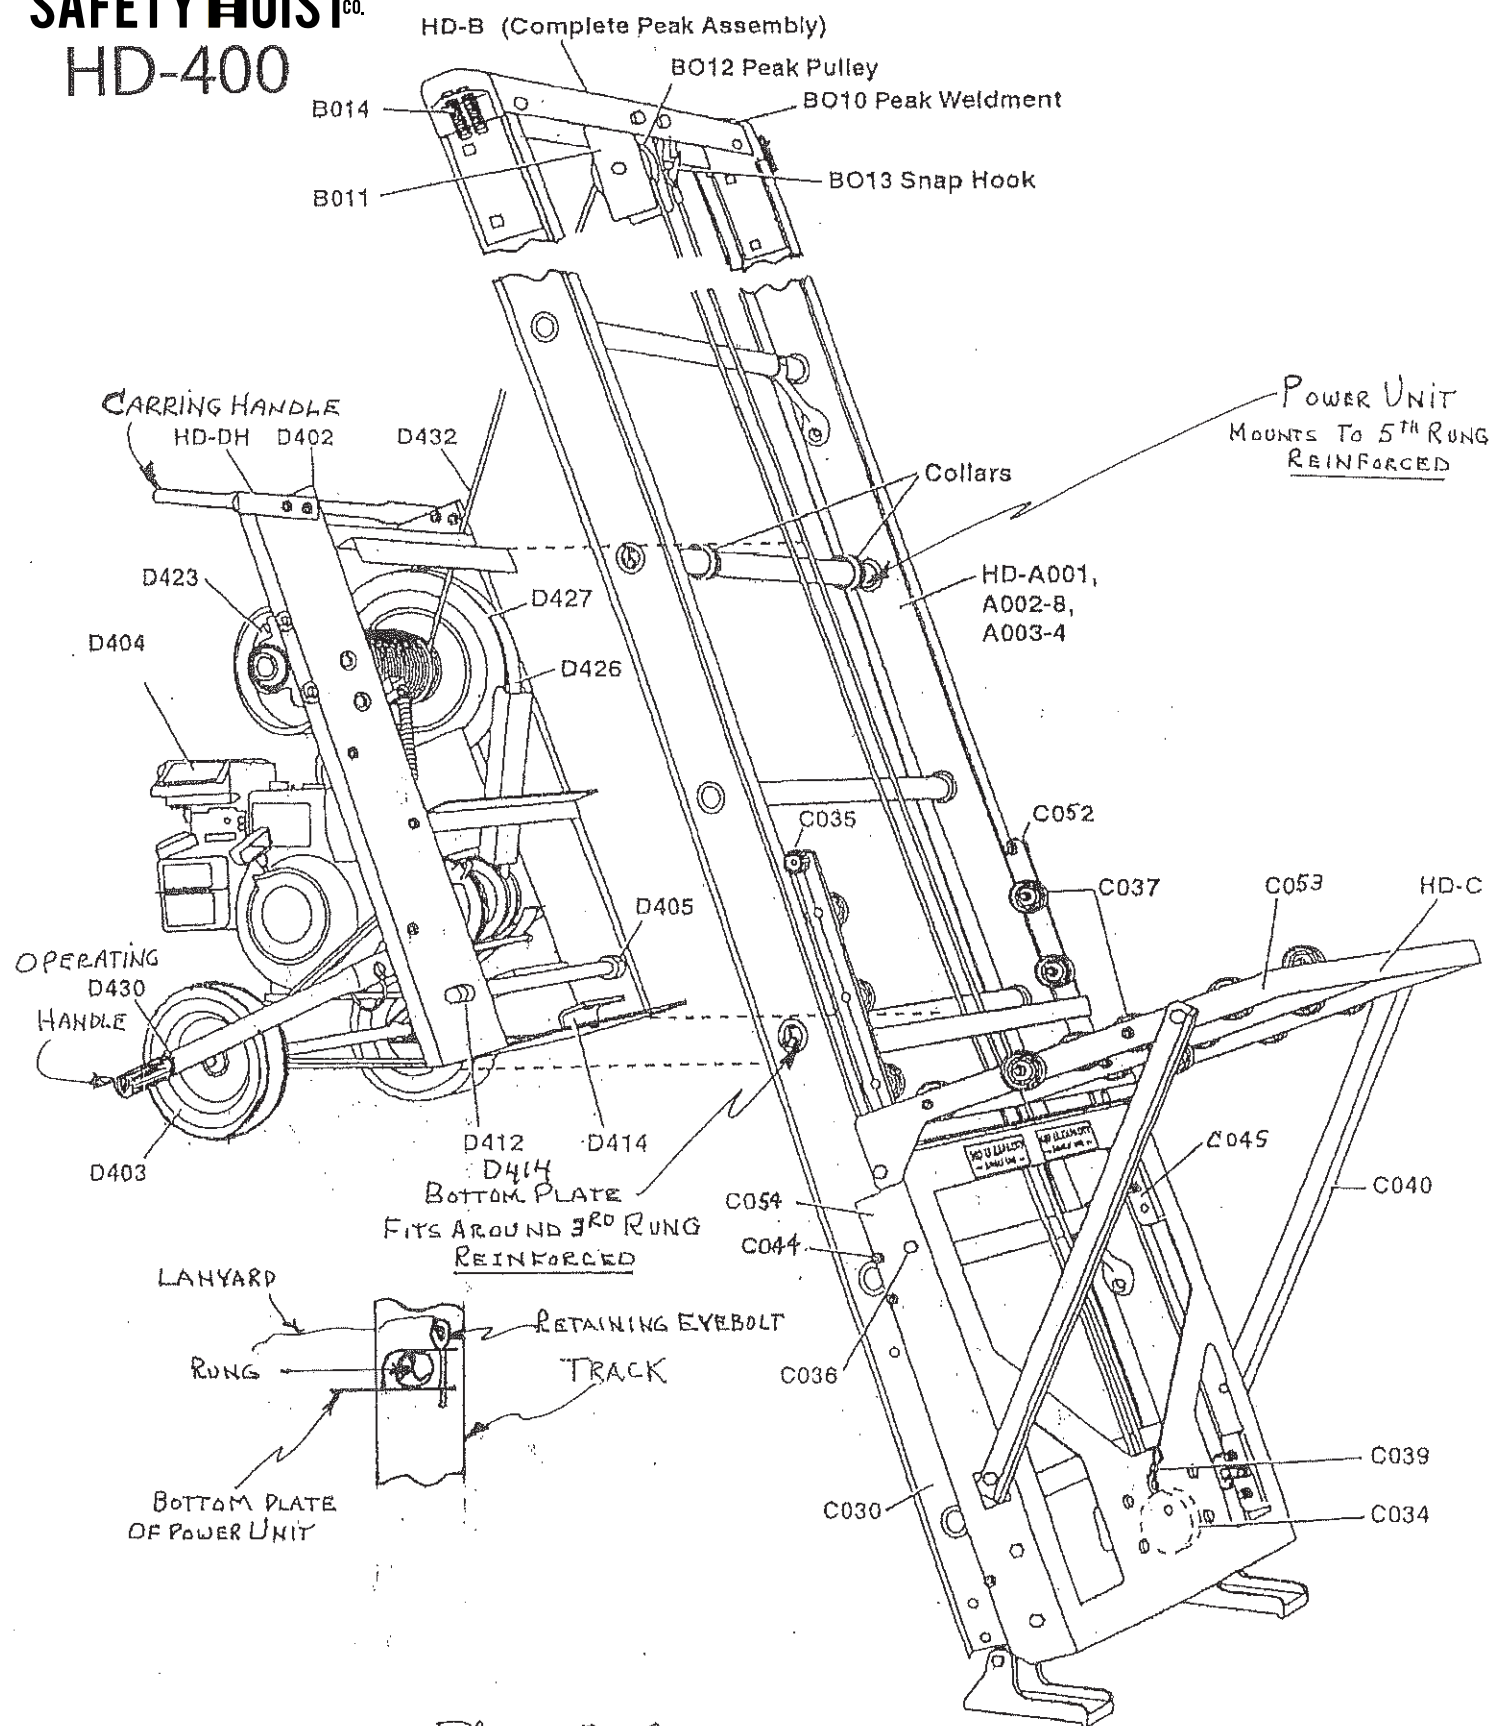

FIG. A-1
1. Locate fastener package- with Nine 3/8 x 1 ¼ bolts, Five 3/8 x ¾ Bolts, and 5 Locknuts. Also locate the Power Unit Carrying Handle, Figure A-1 and 2 Diagonal Braces as shown in Figure A-2.
2. Mount the Power Unit Carrying Handle using Four 3/8-16X3/4 Bolts and Lock Nuts. As shown in Figure A-1.
3. Install the Operating Handle over the Actuator (pivoting) Bar and secure with the Hitch Pin. Make sure the handle is properly fastened so it will not fall off during operation. See diagram at front of manual, (FIG. A-1)